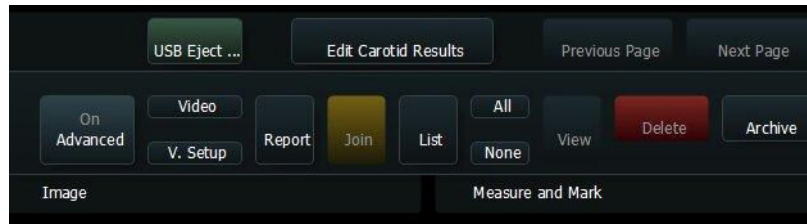

Figure 9-7. The editing tab for reports.
- 2 Click the editing tab for the results you want in your report (Edit Carotid Results in Fig 9-7).